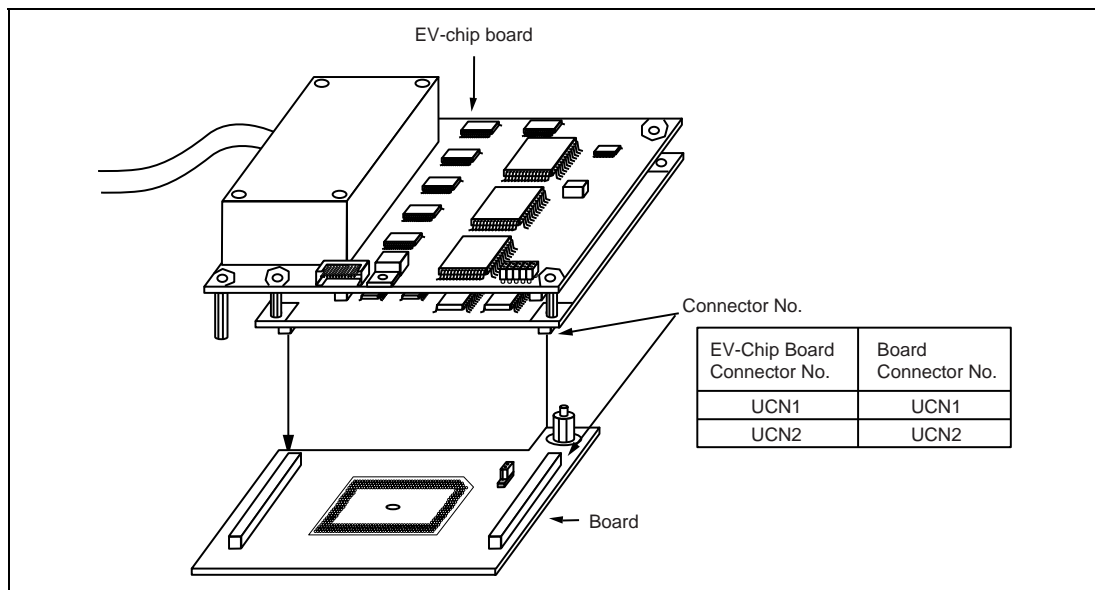

Figure 4 Connecting User System Interface Board to EV-Chip Board
2. Align the connectors on the board with those on the EV-chip board according to their numbers (figure 4).